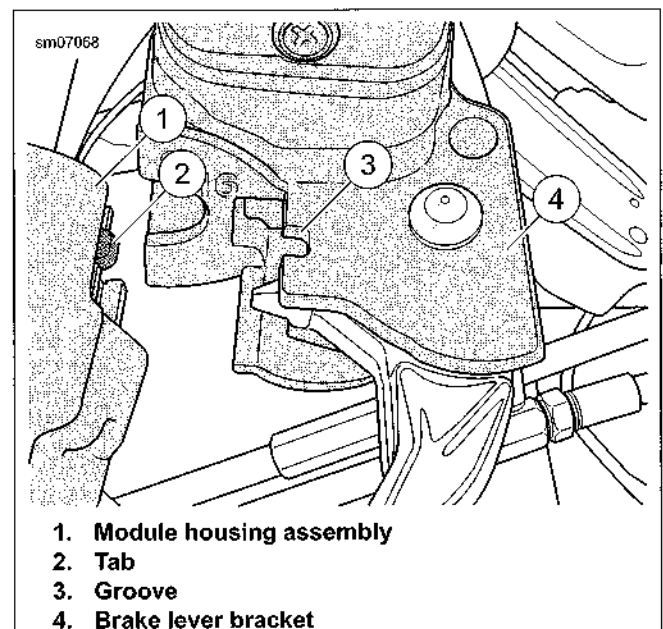

Figure 6-119. Module Housing Alignment
- See Figure 6-119. Position brake lever/master cylinder assembly inboard of module housing assembly. Engage tab (2) on lower module housing in the groove (3) at top of brake lever bracket.